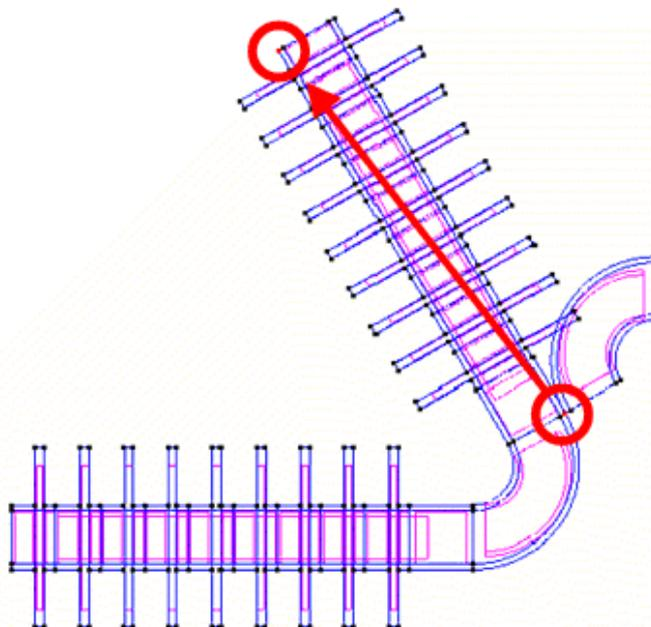

Figure 19. The circled points define the translation vector.
- 3 . In the **Move** window, select **Surfaces** and **Translation**. The points defining the translation vector are circled in Figure 19.